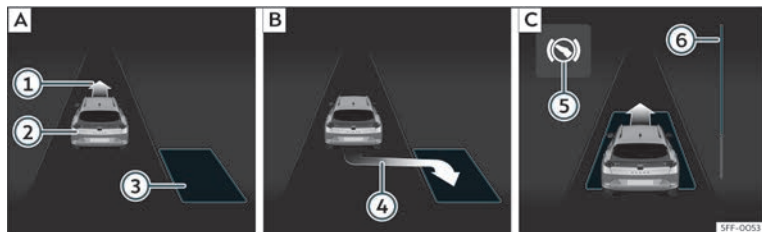
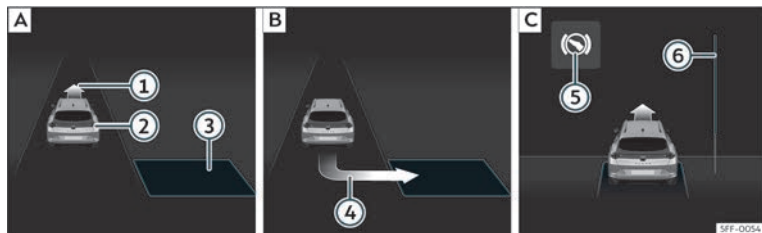

Fig. 191 On the instrument panel display: parallel parking. **[A]** Finding a parking space. **[B]** Parking position. **[C]** Manoeuvring.
Fig. 192 On the instrument panel display: angle parking. **[A]** Finding a parking space. **[B]** Parking position. **[C]** Manoeuvring.
- Look at the display on the instrument panel to see if the space has been detected as “appropriate” and if the correct position for parking has been reached»» **Fig. 191 [B]** or»» **Fig. 192 [B]**. The space is considered
- Reverse until the continuous ParkPilot signal sounds; **OR:** reverse until the indication to move forward appears on the instrument panel display >>> Fig. 191 [C] or >>> Fig. 192 [C]; **OR:** reverse until the **Park Assist finished** message appears on the instrument panel display. The progress bar ⑥ indicates the distance to cover >>> page 278.
- Press the brake pedal until the parking assist system completes the steering wheel turns; **OR:** until the symbol ⑤ goes out on the instrument panel screen.
- Move forward until the continuous ParkPilot signal sounds; **OR:** move forward until the reverse indication appears on the instrument panel display. The Park Assist system steers the vehicle forward and back until it centres it in the space >>> Fig. 191 [C] or >>> Fig. 192 [C].
>>> Fig. 191 ⑥ and >>> Fig. 192 ⑥ on the screen of the instrument panel displays the relative distance to be covered. The greater the distance, the fuller the progress bar. When driving forward, the content of the progress bar decreases upwards, and when reversing, it decreases downwards.